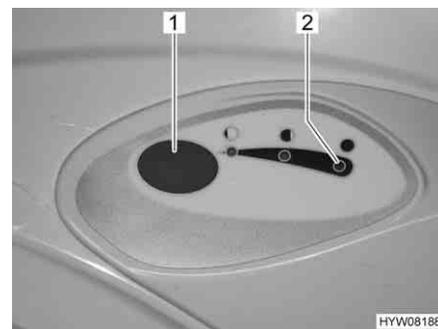

Fig. 204 Flush button/indicator lamp Thetford toilet
- For flushing, press the blue flush button (Fig. 204,1).
The indicator lamp (Fig. 204,2) lights up whenever the sewage tank has to be emptied.